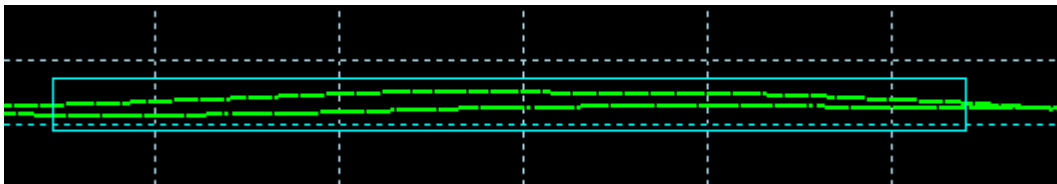

Figure 80: Selection of area underneath the transducer(s)
- STEP 2)** Draw a scroll box over the area of interest. See Figure 80 as example.